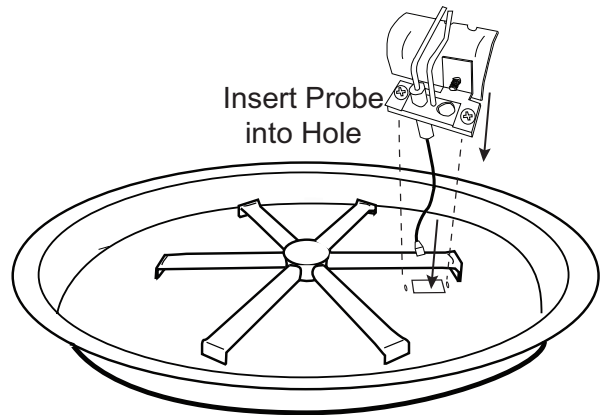

Fig. 10 Inserting probe assembly into pan/disc.
Step 2: Remove the two stainless steel screws and nuts from the probe assembly but leave it assembled. Carefully slide the orange wire from the top of the pan through rectangular hole in the fire pit pan resting over the burner leg and install the screws into the existing holes of the cover plate. See Fig. 10.